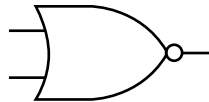

Fig. 4
- (b) Fig. 4 shows the symbol for a logic gate.
- (i) Name the type of logic gate shown in Fig. 4. [1]
- (ii) Draw the truth table for the logic gate shown in Fig. 4. [3]